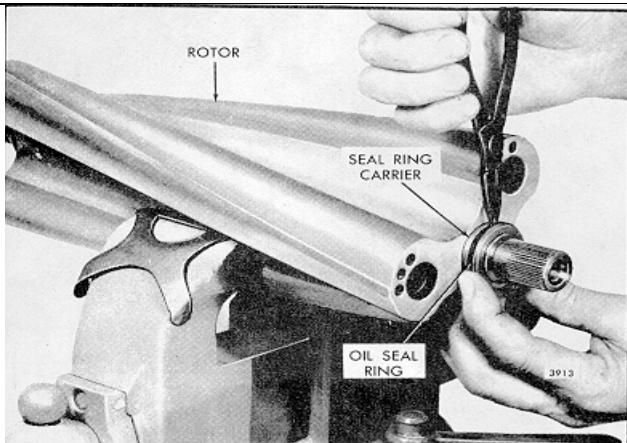

Fig. 9 - Removing Oil Seal Ring from Carrier
- a. Clamp one lobe of the rotor in a bench vise equipped with soft jaws (Fig. 9). Tighten the vise just enough to hold the rotor stationary.
pair of snap ring pliers J 4880 as shown in Fig. 9.
each carrier with a pair of snap ring pliers J 4880 in the same manner as shown in Fig. 9.